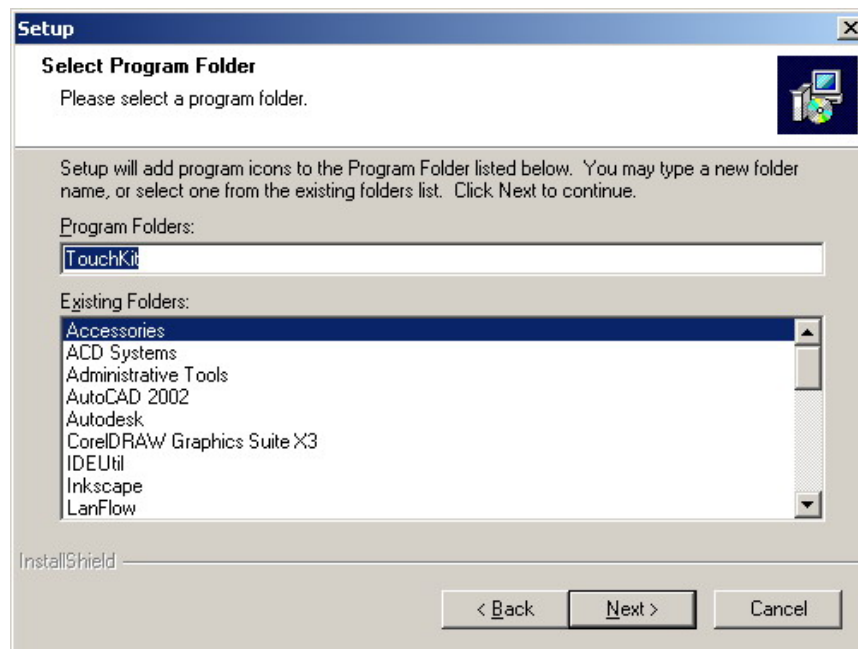

Figure C-8: Program Icon Directory
Step 13: The user is then prompted to select a file directory in which the program icons are saved (**Figure C-8**). The default folder is "TouchKit." If a different folder must be used, select a folder from the list shown. Once the folder is selected, click **NEXT** to continue.